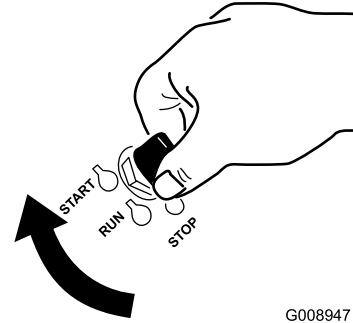

Figure 17
1. Turn the ignition key to the Start position (Figure 17). When the engine starts, release the key.
6. Turn the ignition key to the Start position (Figure 17). When the engine starts, release the key.